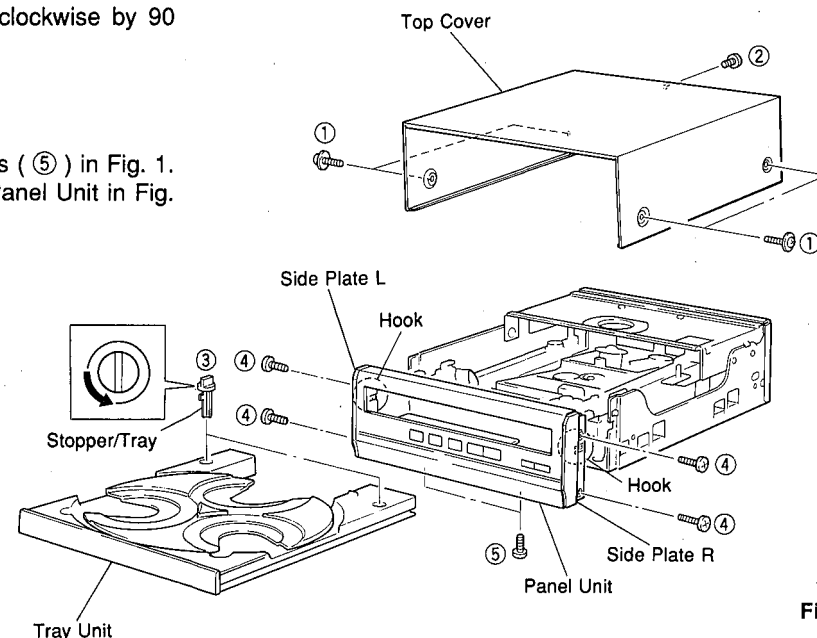

Fig. 1
Remove 4 screws (①) and 1 screw (②) in Fig. 1.
- Turn the stopper/tray (③) counterclockwise by 90 degrees to pull it out in Fig. 1.
- Remove 4 screws (④) and 2 screws (⑤) in Fig. 1.
- Remove 2 hooks and then pull the Panel Unit in Fig. 1.